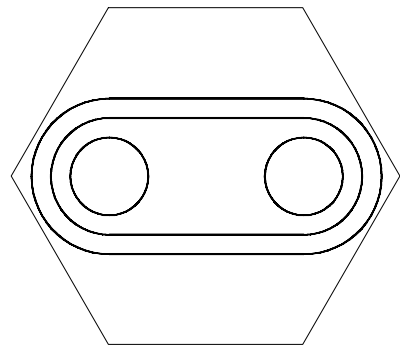

Figure 12-14 Displaying the drawing inside the polygonal viewport
8. Choose the **Model** button from the status bar to switch back to the paper space. The drawing is now displayed fully inside the viewport, see Figure 12-14.